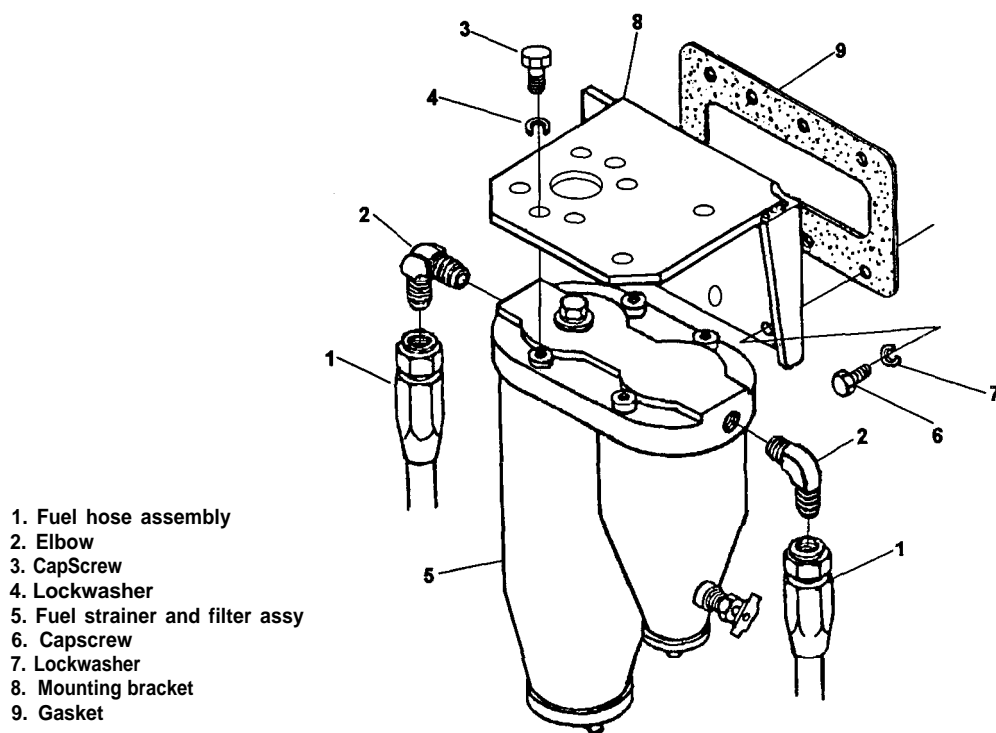

Figure 4-15. Fuel Strainer and Filter Assembly, Removal and Installation
- (1) Open the drain cocks on the fuel strainer housing and the fuel filter housing and allow the fuel to drain into a suitable container.
- (2) Disconnect fuel hoses (1, Figure 4-15) and remove elbows (2).
- (3) Remove cap screws (3) and lockwashers (4) and remove fuel strainer and filter assembly (5) from mounting bracket (8).
- (4) Do not remove capscrews (6), lockwashers (7), mounting bracket (8) or gasket (9) unless inspection reveals damage.
- (1) If removed, install gasket (9), mounting bracket (8), lockwasher (7), capscrews (6) (Figure 4-15).
- (2) Install fuel strainer and filter assembly (5) onto mounting bracket (8), lockwashers (4), and capscrews (3).
- (3) Install elbow (2) and reconnect fuel hoses (1).
- (4) Close drain cocks on the fuel strainer housing and the fuel filter housing.